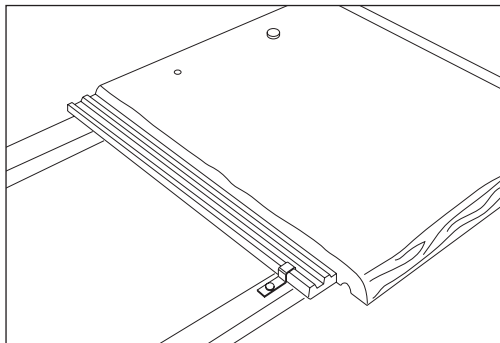

Fig 89 – Clipping eaves course slates
- Clip each slate using a stainless steel clip located firmly and accurately over side-lock of slate (Fig 89).